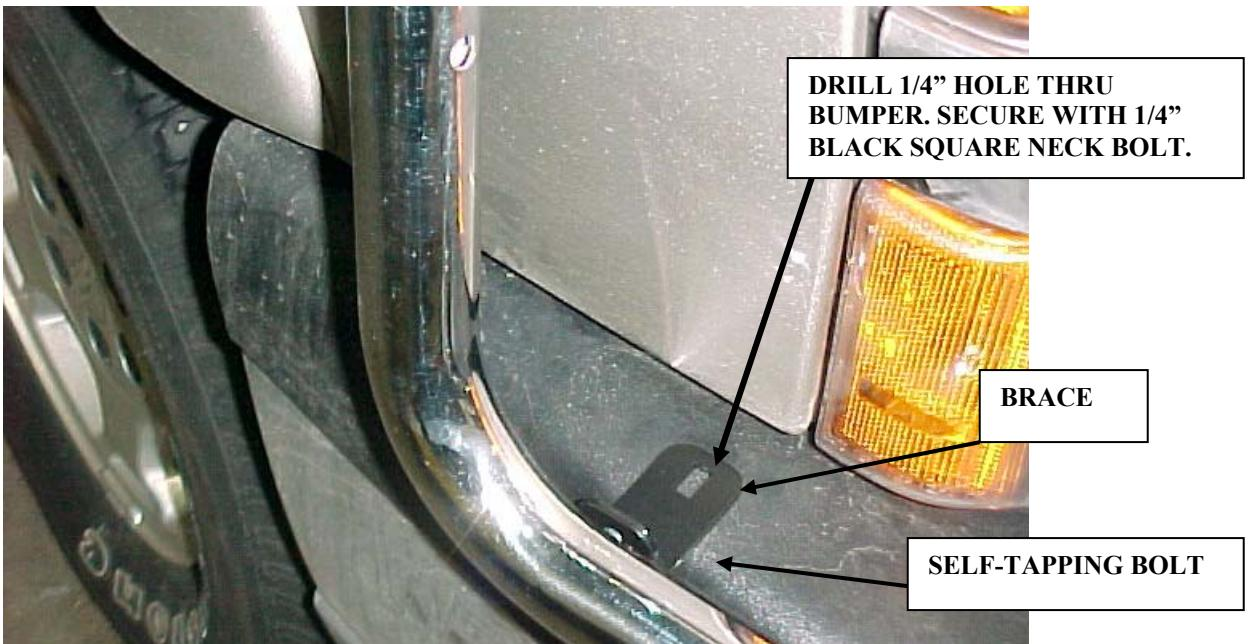

Figure 2: For 1/2 ton only.
NOTE: These Brush Guards will fit both 1/2 ton and the 3/4 & 1 ton trucks, but different support brackets are required. See Figure 2 for the 1/2-ton application and Figures 3 and 4 for the heavier trucks.
2. On 1/2 ton trucks only, refer to **Figure 2** and attach the brace to the Brush Guard tubes. Secure with the 1/4" self-tapping bolt. Using the square slotted hole as a guide, drill a 1/4" hole thru the bumper plastic and the metal below. Secure with the black 1/4" square neck bolts and a locknut on the bottom side of the bumper lip.